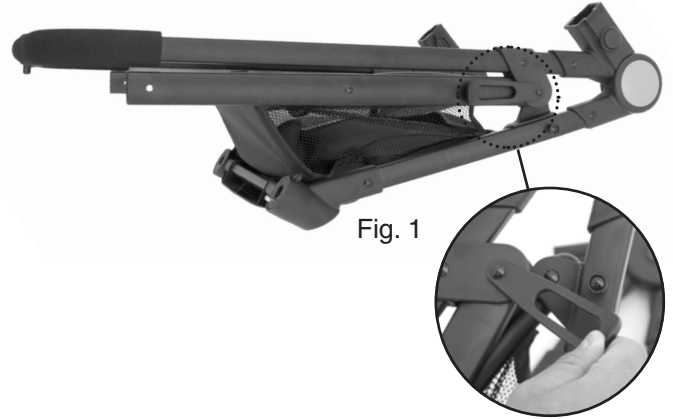

Fig. 1
- **To open the frame:** Unhook the latch, located on the right hand side of the stroller frame (Fig. 1)